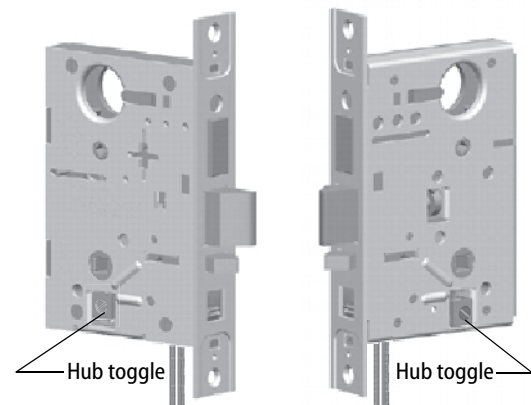

Figure 10 Positioning the hub toggles
- 1 Check whether the hub toggles are in the proper position for the lock (Figure 10). The inside hub toggle should be down (always latched) and the outside hub toggle should be up (lockable).